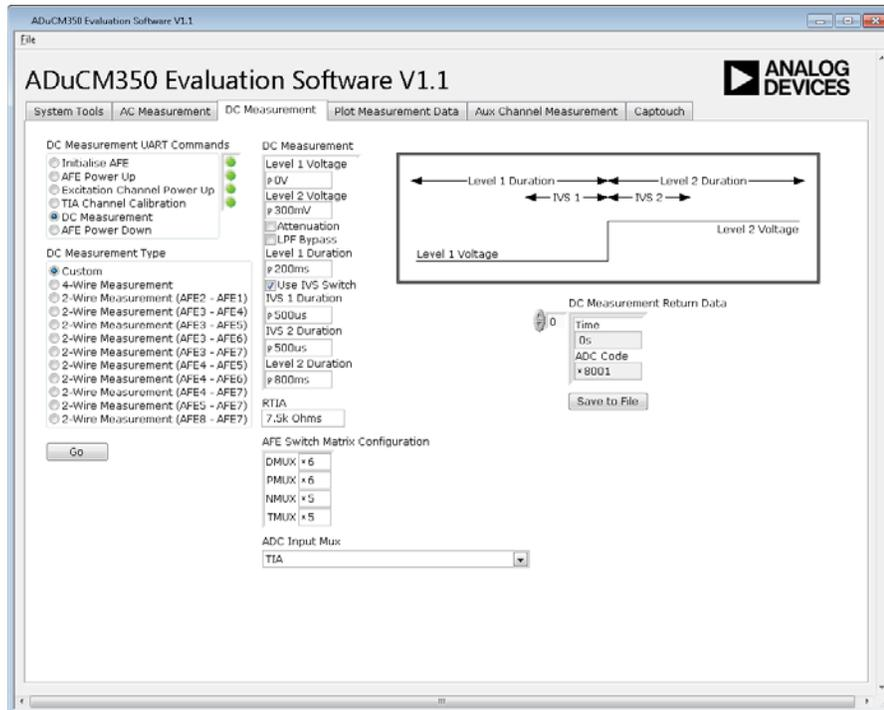

Figure 5. ADuCM350 LabVIEW GUI Using the ADuCM350 Evaluation Kit
The measurement is performed using the evaluation board for the ADuCM350 and the LabVIEW® evaluation software (see Figure 5).
In the example in this section, the part is setup in 2-wire mode with D and P connected to AFE6, and T and N connected to AFE5. This is done via **AFE Switch Matrix Configuration** as shown in Figure 5.
Select **DC Measurement** in the **DC Measurement UART Commands** window as shown in Figure 5. Once the setup is complete, click **Go** to execute a measurement.
- Click **Save to File** (see Figure 5) on the **DC Measurement** window and open the file in Microsoft® Excel.